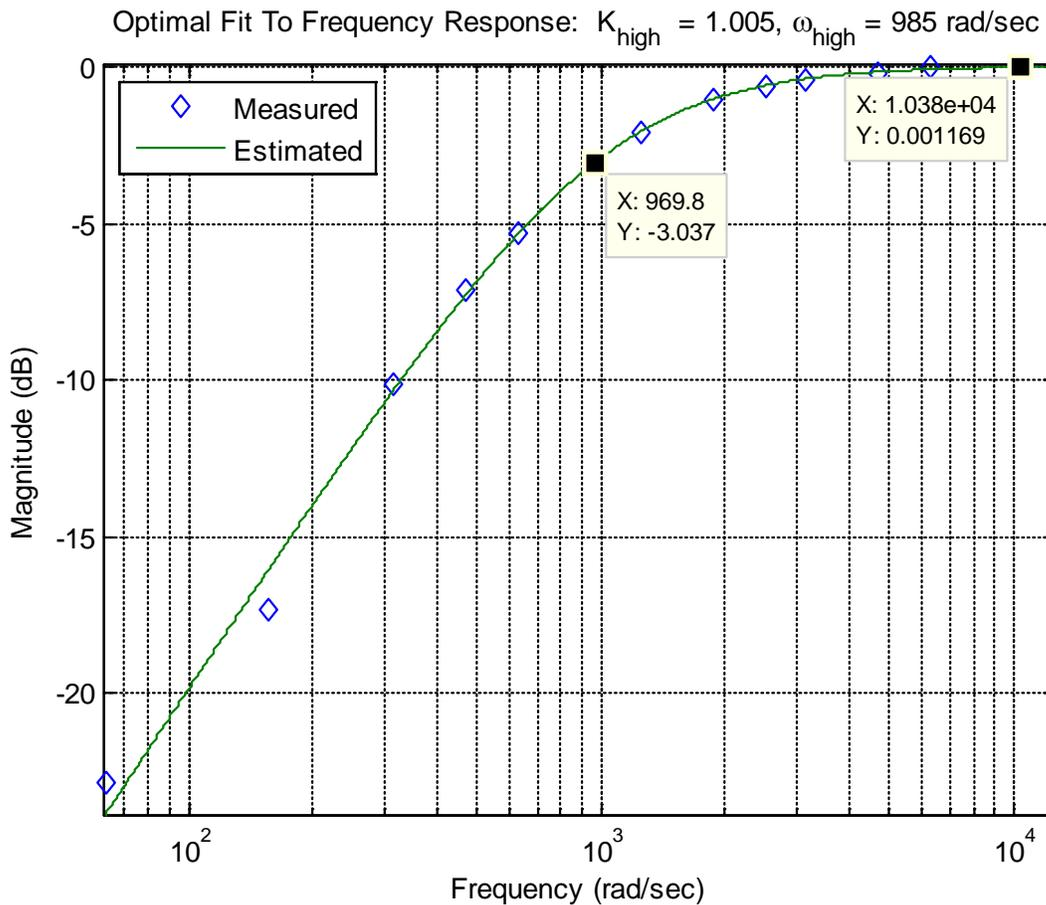

Figure 5: Highpass filter with a cutoff frequency of approximately 970 rad/sec (154 Hz).
c) In the Matlab command window type **model_high(data, 0.3, 100*2*pi)**; You should get results similar to that shown in Figure 5. Click on the **Datatip** icon (just below Desktop) to identify points on the graph. Once you have identified the maximum value, you may have to use a right click and create a new data tip (it usually helps if you right click when you are on a current datatip). You can fine tune your datatip locations by using the cursor keys on your keyboard. Your data points should be from the peak value to a value 3 dB lower. Include this graph in your memo. Be sure your graph has two datatip points.